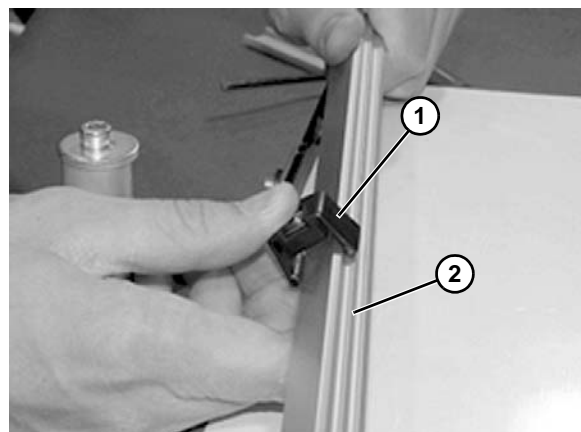

Figure 71
4. Snap clip (**Figure 71, item 1**) onto guide rail (**Figure 71, item 2**).